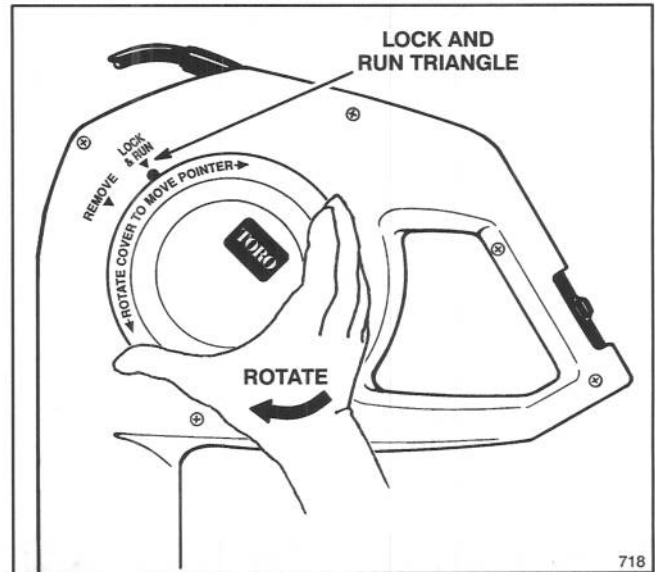

Figure 15
6. Rotate inlet cover clockwise with some extra force until you hear a "snap." The black pointer and the "LOCK & RUN" triangle on the housing must line up (Fig. 15).